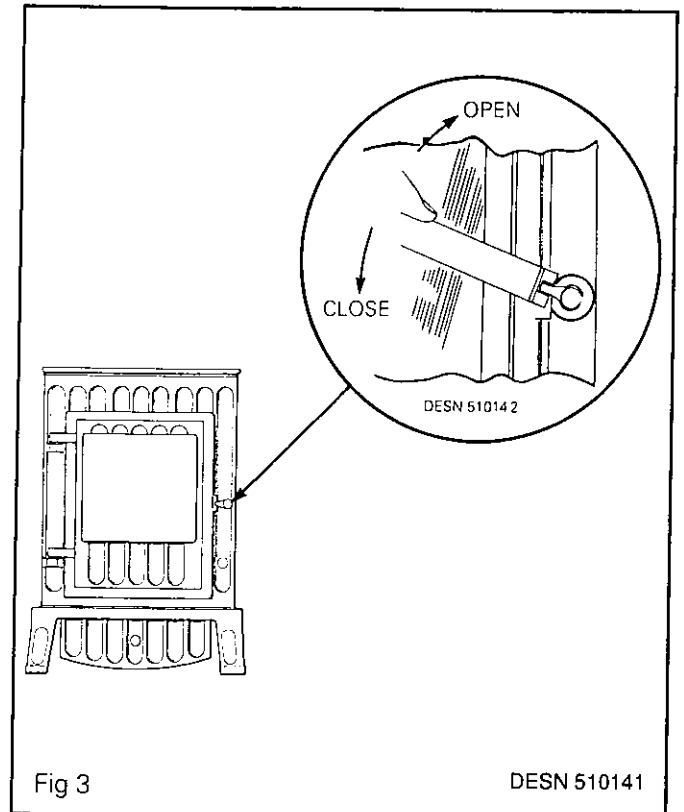

Fig 3
1) Open the door of the stove. (Using the tool supplied). See Fig.3.
Open the door of the stove (Using the tool supplied). (See Fig.3).